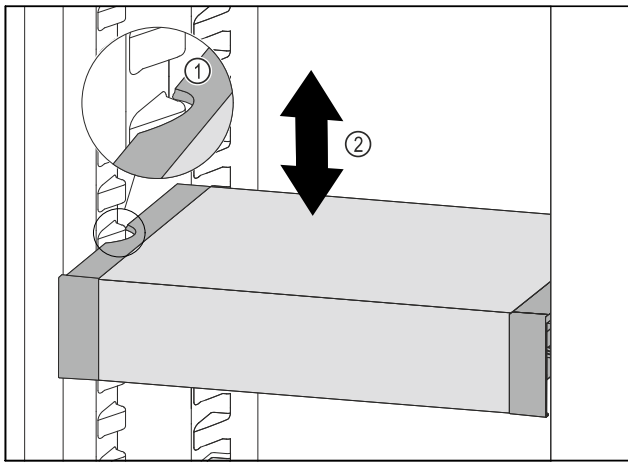

Fig. 100
- Pull VarioSafe forwards until the recesses in the side of the VarioSafe are at the level of the support rib in the refrigerator compartment. Fig. 100 (1)
- Move VarioSafe up or down in the refrigerator compartment until the desired height is reached. Fig. 100 (2)